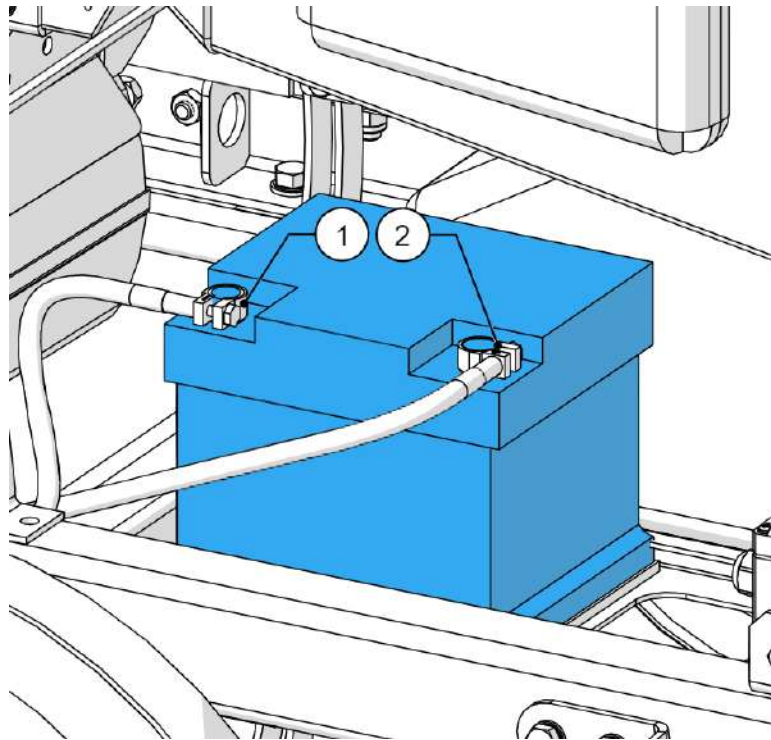

Figure 73 - Battery terminals
5. Remove the negative lead at the battery (1, Figure 73), then the positive lead (2, Figure 73).
11. Connect the positive lead to the battery (2, Figure 73), then the negative lead (1, Figure 73).